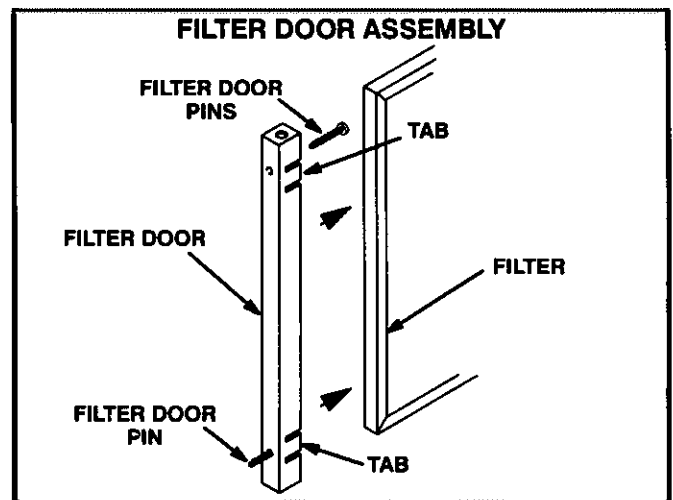

FIGURE 11
- 3- Push filter door pins through the two holes in filter door from the inside of the u-channel. See figure 11.